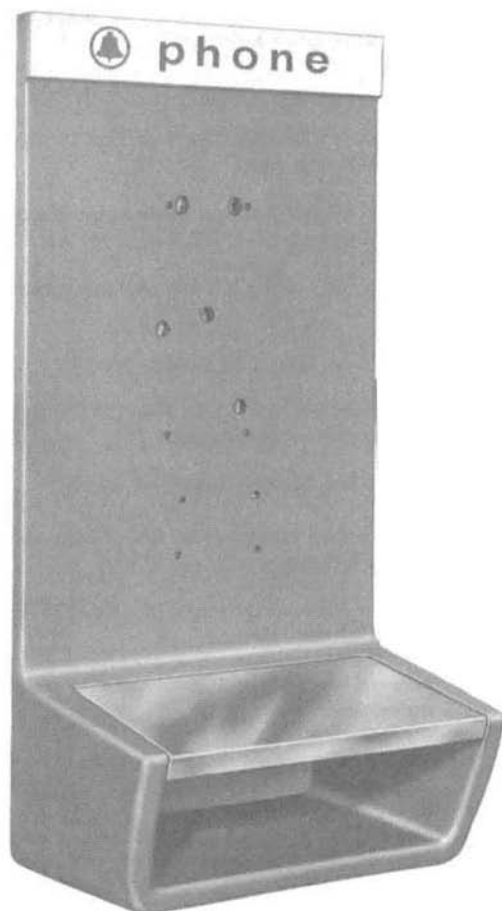

Fig. 5—KS-19945, List 14 Coin Telephone Shelf
- 3.07** Install 1A/1C-type coin telephone set in accordance with Sections 506-410-400 or 506-411-401. Security studs will go through shelf and backboard (Fig. 5).